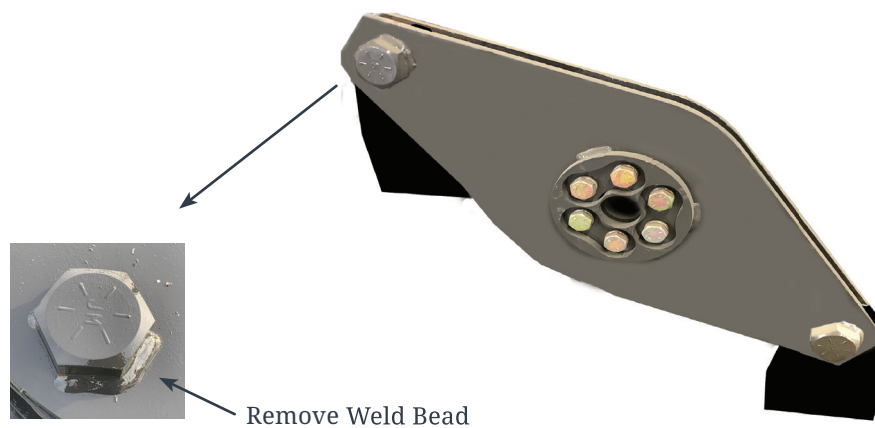

FIGURE 3.6A – BLADE HOLDER BOLT WELD BEAD REMOVAL
2. Use a cutting torch or a grinder with a cut off wheel to remove the weld bead around the bolt head. (see Figure 3.6a on next page).